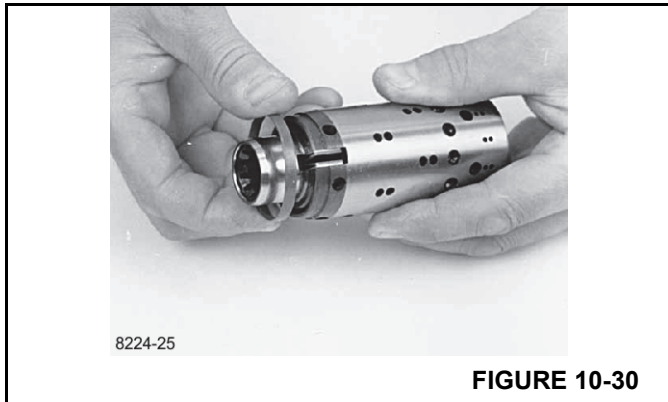

FIGURE 10-30
4. Guide the ring down over the sleeve (Figure 10-30).